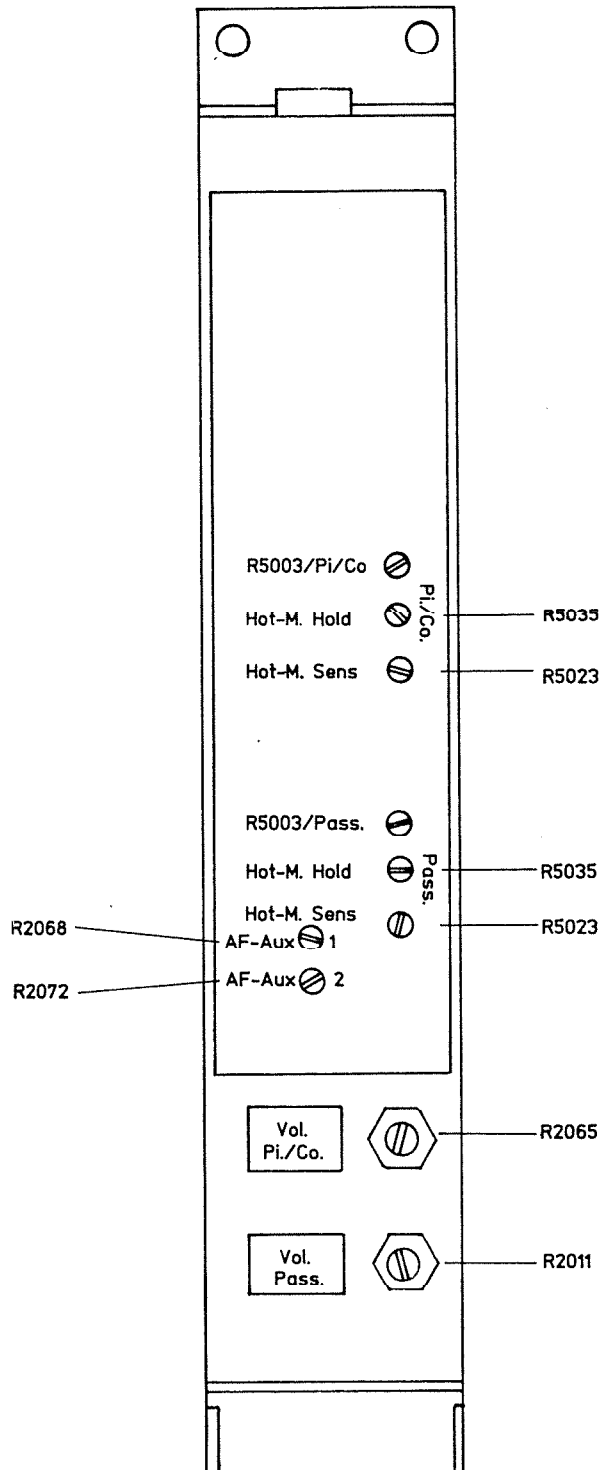

Fig. 2-3 Locations of the variable resistors
- Set the volume of the PA branch and the Pi/Co branch by means of variable resistors R 2011 and R 2065 (accessible from without, see Fig. 2-3) as required for function-testing.
- Hot mike sense and hold can be adjusted by means of variable resistors R 5023 and R 5035 respectively (accessible from without, see Fig. 2-3) as required.
- AF Aux 1 and 2 input sensitivity can be set by means of variable resistors R 2068 and R 2072 as required (accessible from without, see Fig. 2-3).